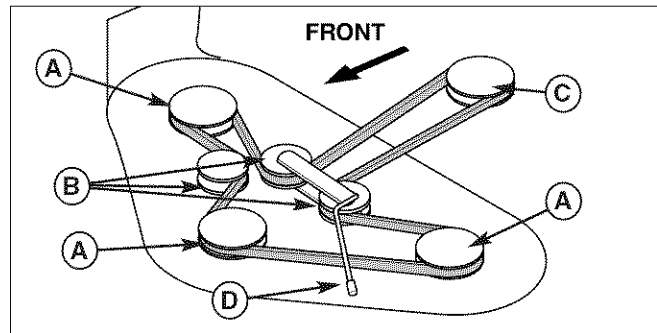
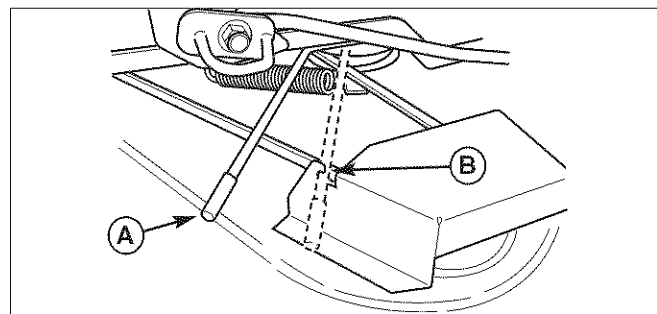

Figure 36. Mower Belt Routing
Figure 37. Release Belt Tension
3. Place the mower cutting height pin in the 4th hole from the bottom (C, Figure 36).
2. Raise the mower deck to transport position. Pull the lever (A, Figure 37) towards the rear of the machine to release tension on the mower belt. Secure the lever in the guard notch (B).
3. Remove the old drive belt and install the new one as shown in Figure 36. Note that the back of the drive belt must ride against the back-side idler pulleys (B). Use the belt tension lever (A, Figure 37) to release tension on the idler pulley for installation.